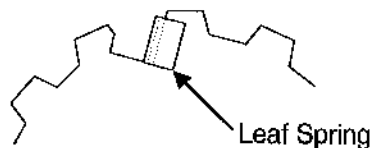

Fig. 11
- a) Remove fan cover (12).
- b) For models FB-5B and -8B remove set pin (13) and fan (14). For models FB-10B and -15B remove set screw (13) and fan (14).
- c) Remove all three nuts (8).
- d) Remove brake shoe (15) and take out brake lining (9).
- e) Fix leaf spring (22) as shown in Fig. 11.
- g) Fit a new brake lining (9) onto hub (10); check to ensure that the lining moves smoothly. Remove excess grease.
- h) After completion of brake assembly, measure gap G. If the gap is out of specification range, adjust by rotating gap adjusting nut (8).
- i) Check for brake performance by turning system power on and off a few times. If no abnormalities are detected, replace fan (14), set pin or screw (13) and cover (12).